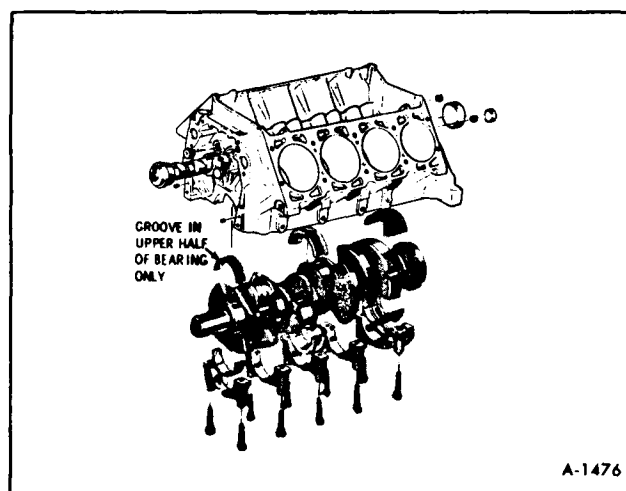
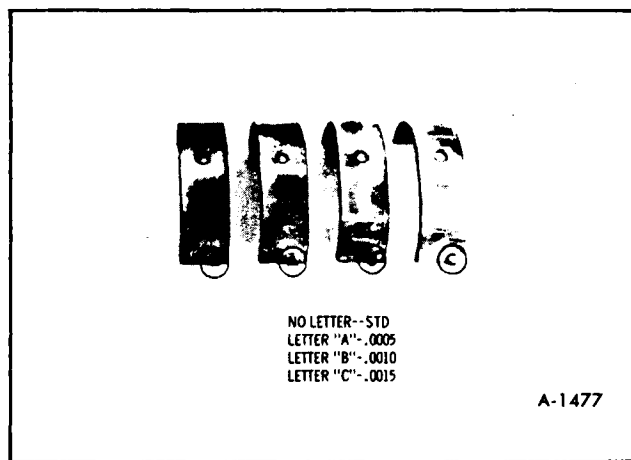

Figure 65—Crankshaft Exploded View
Figure 66—Main Bearing
**NOTE:** The upper and lower shells must be installed in pairs (figure 65). Sizes of the bearings are located on the tang (figure 66). It is possible to have more than one bearing size in the same engine.